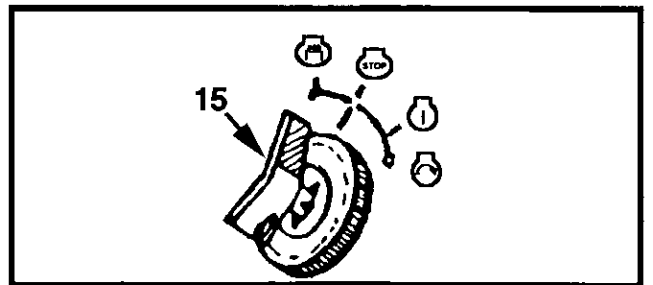

Figure 4-23 Ignition Switch
3. Allow machine to idle for a few minutes before turning ignition switch key (15, Figure 4-23) to position. Remove ignition key.